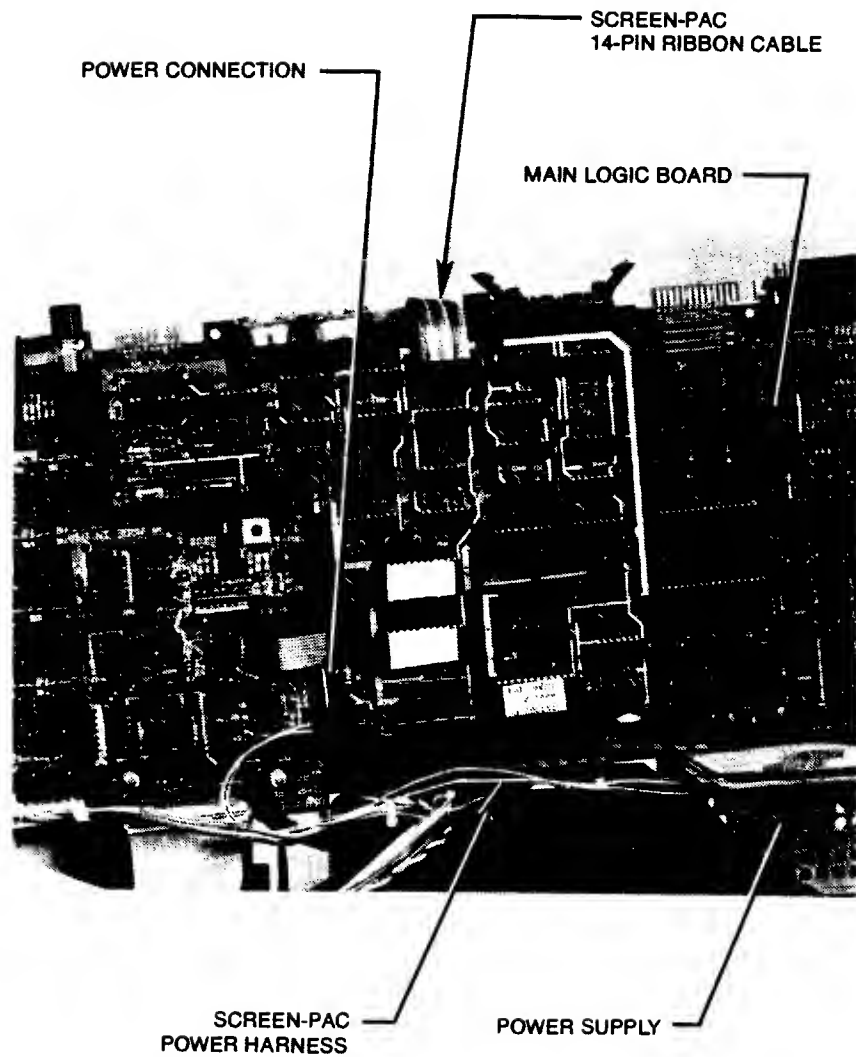

FIGURE 6-35. POWER HARNESS
- 6.12.5.1 Press the 14-pin connector on the ribbon cable onto the socket at the front of the SCREEN-PAC board (Figure 6-35).
- 6.12.5.3 Attach the connector on the power harness to the DC output connector on the power supply. The connector is keyed to fit only one way (Figure 6-35).
- 6.12.5.4 With the logic board held vertically, connect the 2-wire cable from the power supply to the ground connection on the SCREEN-PAC PC board. The cable is keyed to connect only one way (Figure 6-35).